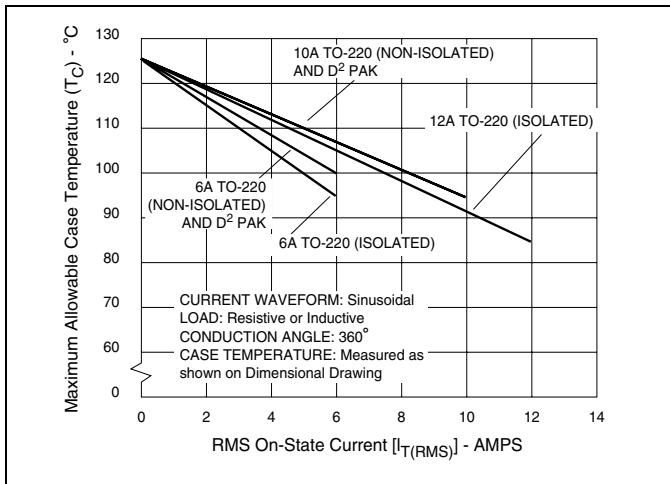
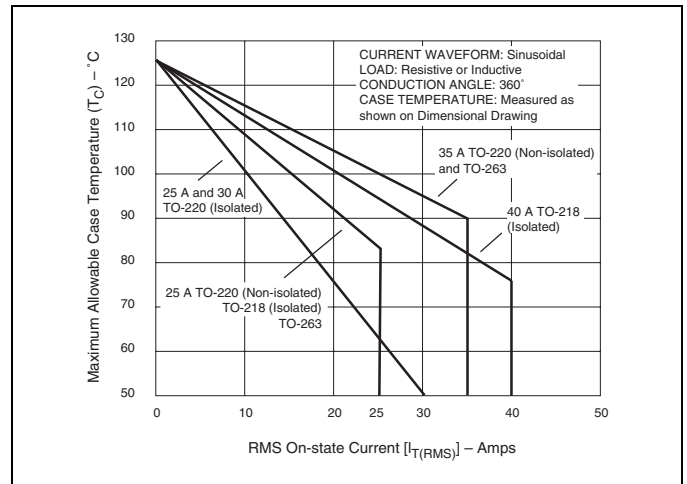
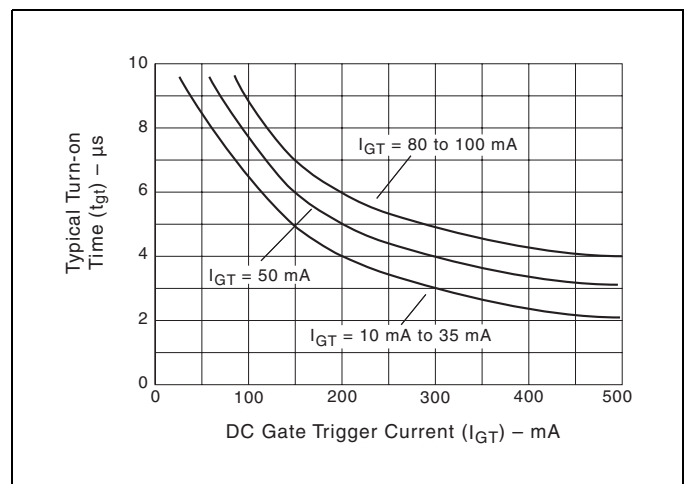

Figure E4.1 Maximum Allowable Case Temperature versus On-state Current (6 A to 12 A)
Figure E4.4 Maximum Allowable Case Temperature versus On-state Current (25 A to 40 A)
Figure E4.12 Turn-on Time versus Gate Trigger Current (Typical)
- See Figure E4.1 through Figure E4.4 for current rating at specific operating temperature and Figure 4.16 for free air rating (no heat sink).
- (10) See Figure E4.12 for t_{GT} versus I_{GT} .
- (11) See package outlines for lead form configurations. When ordering special lead forming, add type number as suffix to part number.
- (12) Initial on-state current = 400 mA dc for 16 A to 40 A devices and 100 mA for 6 A to 12 A devices.
- (13) See Figure E4.1 through Figure E4.4 for maximum allowable case temperature at maximum rated current.
- (14) Pulse width $\leq 10 \mu s$; $I_{GT} \leq I_{GTM}$
- (15) For 6 A to 12 A devices, $R_L = 60 \Omega$; 16 A and above, $R_L = 30 \Omega$
- (16) 40 A pin terminal leads on K package can run 100 °C to 125 °C.
- (17) Alternistor does not turn on in Quadrant IV.
- (18) $T_C = T_J$ for test conditions in off state
- (19) $I_{GT} = 200 \text{ mA}$ for 6 A to 12 A devices and 500 mA for 16 A to 40 A devices with gate pulse having rise time of $\leq 0.1 \mu s$.
- (20) Minimum non-trigger V_{GT} at 125 °C is 0.2 V.